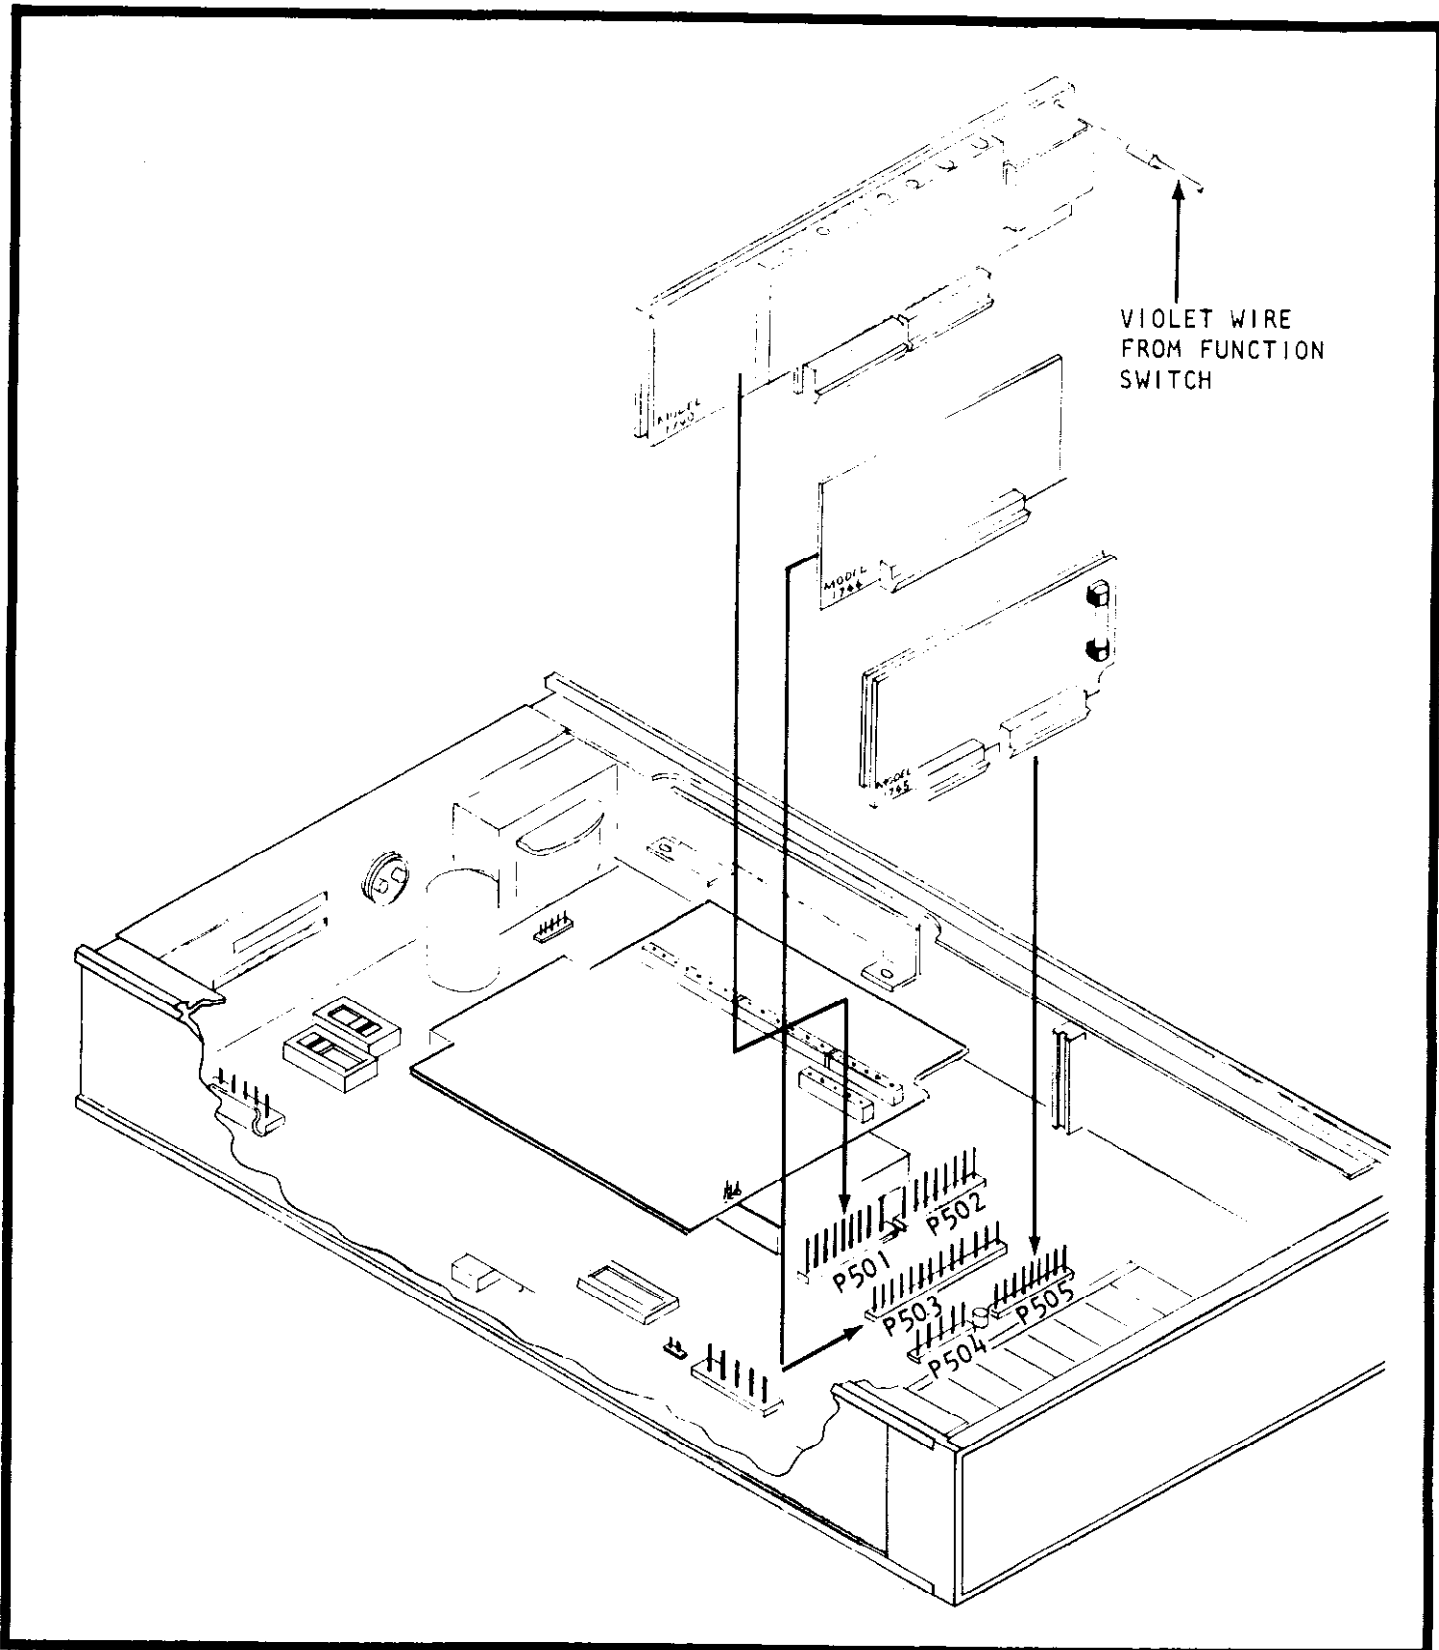

FIGURE 4. Installation of Models 1740, 1744, 1745.
c. How to Install the Model 1740 AC VOLTS Option. Cut the tie wrap holding the "violet" wire. Connect the "violet" input lead (P301) coming from the Function Switch to J1203. Install the plug-in board for the Model 1740 on the Model 174 chassis at P501 and P502 as shown in Figure 4. The plug-in board (PC-414) edges should mate with the teflon card edge guides which support the board. The component side of PC-414 faces the front of the instrument.
d. How to Install the Model 1744 OHMS Option. The plug-in board (PC-408) for the Model 1744 is installed on the Model 174 chassis at P503 as shown in Figure 4. The component side of PC-408 faces the front of the instrument.
e. How to Install the Model 1745 AMPERES Option. The plug-in board (PC-409) for the Model 1745 is installed on the Model 174 chassis at P504 and P505 as shown in Figure 4. The component side of PC-409 faces the front of the instrument. Check fuse F1001 for proper rating and condition. Replacement fuse is a Keithley Part No. FU-39; 4 amperes rating.